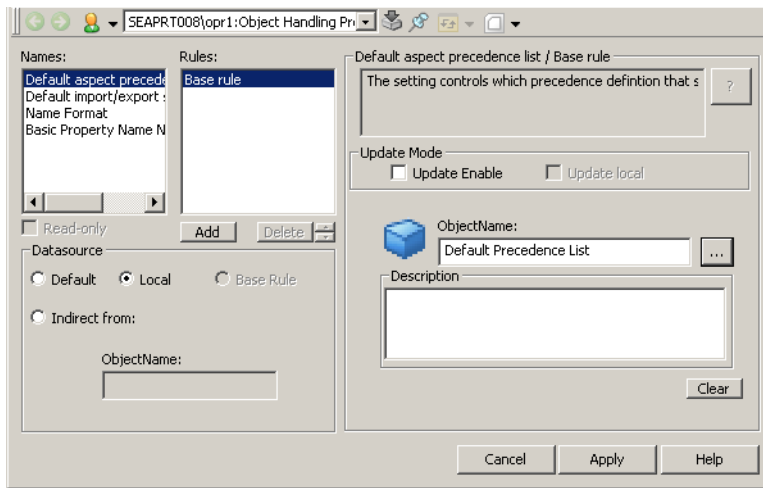

Figure 127. Object Handling Profile Values
5. Select **Local** in the **Datasource** area, and browse for your newly created precedence list by clicking the Browse button next to the **Object Name** text field. See Figure 127.